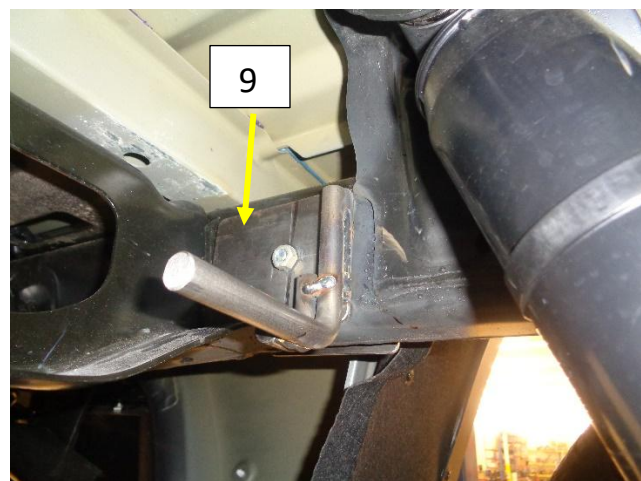

Figure.7
11. Install the supplied Frame hanger assembly (9) at that location using the supplied 3/8" X 4" bolt (14), flat washers (16), lock washer, Nut (15) and Backing plate (10). Fig.7
12. Center the frame hanger assembly over the hole and up against the weld on the rear crossmember. Fig.7
13. Install the 4" (14) bolt with flat washer (16) into the backing plate (10) and install the bolt through the frame into the frame hanger assembly (9). Install a flat washer (16), Split washer (17) and nut (15) then tighten. Fig.7